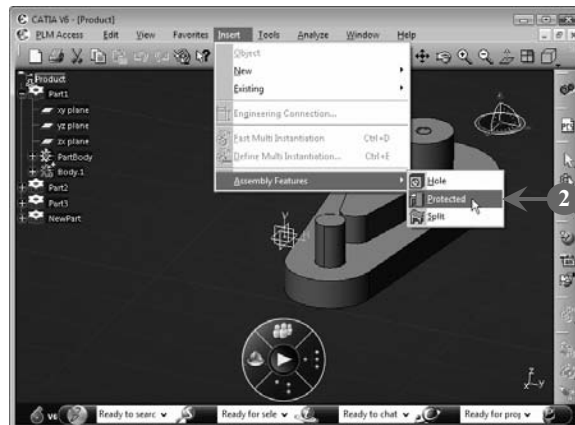

FIGURE 4.44
1. Create an assembly in the Assembly Design workbench (**Figure 4.44**).
2. Select **Insert>Assembly Features>Protected** from the menu bar, as shown in Figure 4.44: